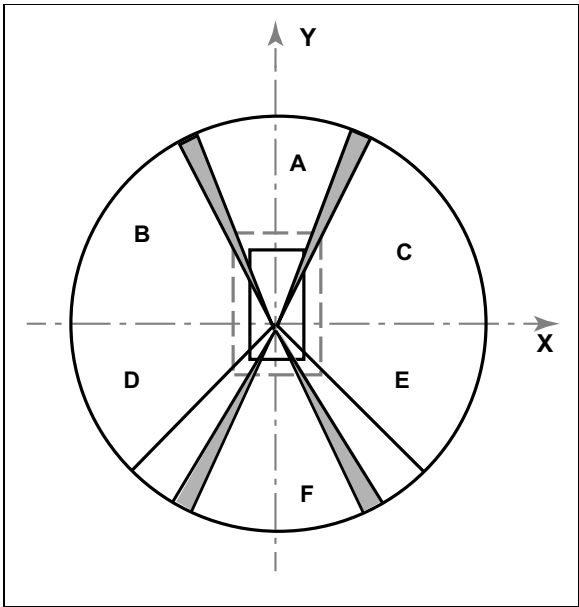

Fig. 6 – Visibility Performance
- Masking was recorded as shown (Fig. 6), and is within the allowable limits in accordance with ISO 5006: 2017.